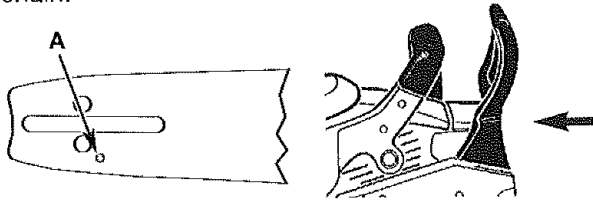
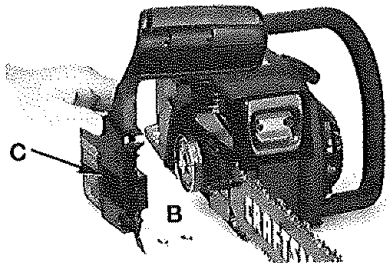
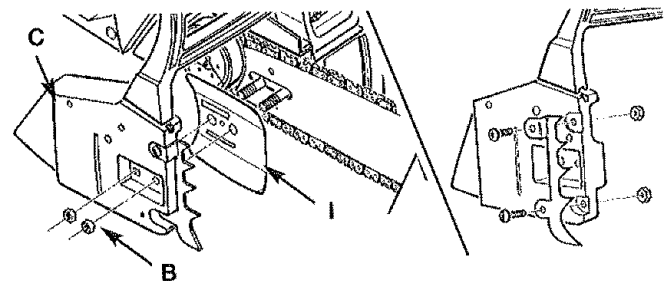
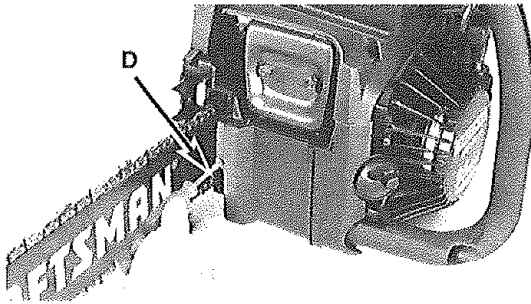

Fig. 21
Fig. 22
Fig. 27
Fig. 28
CAUTION: To ensure the bar and chain receive oil, **ONLY USE THE ORIGINAL STYLE BAR** with the oil passage hole (A) as illustrated in Fig. 21.
1. Make sure the Chain Brake® lever is pulled back into the DISENGAGED position (Fig. 21). Remove bar retaining nuts (B, Fig. 22) with supplied multi-purpose tool.
2. Remove chain brake cover (C, Fig. 22) and outer guide bar plate (I, Fig. 27) by pulling straight out (Fig. 22).
6. Replace the outer guide bar plate (I) so the bent edges (top and bottom) are directed away from the chain (Fig. 27).
7. Install the Chain Brake® cover (C, Fig. 27). Make sure the chain does not slip off of the bar. Install the 2 bar retaining nuts hand tight and follow instructions in Saw Chain Tension Adjustment.
1. Loosen the bar retaining nut(s) (B, Fig. 27). Hold nose of guide bar up and turn adjustment screw (D) CLOCKWISE to increase chain tension. Turning screw COUNTERCLOCKWISE will decrease amount of tension on chain. Ensure the chain fits snugly all the way around the guide bar (Fig. 28).